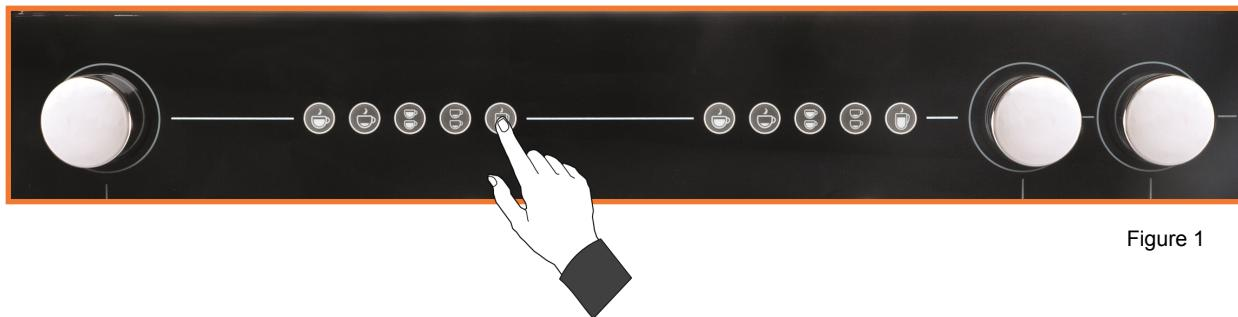

Figure 1
3. Simultaneously Hold down the buttons for one short coffee and a continuous coffee from group 1 (left), see figure 1.